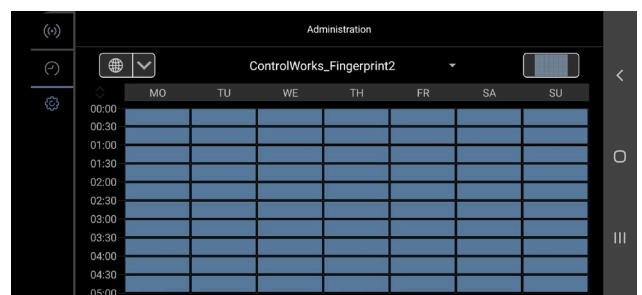

Figure 17 - Adding Fingerprint Favorites to schedule for actions
- Next tap the bell icon, and tap the globe icon for HTTP Calls (figure 17). In the middle of the page next to globe icon, you will see text appear.